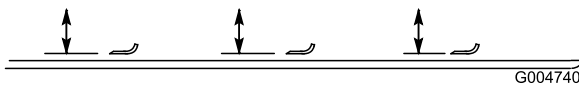

Figure 80
2. Rotate the blade until the ends face forward and backward (Figure 80). Measure from the inside of the cutting unit to the cutting edge at the front of the blade. Remember this dimension.